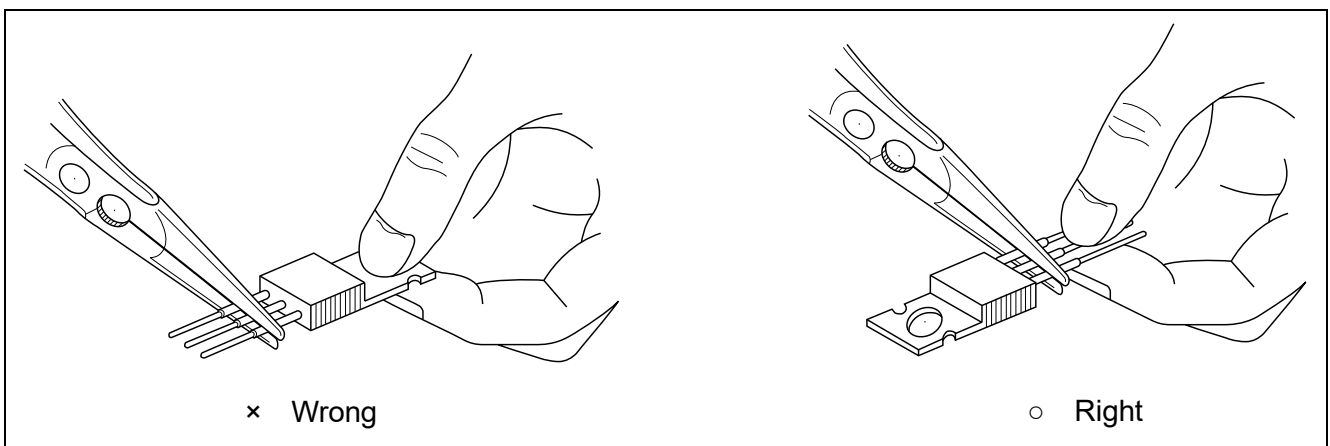
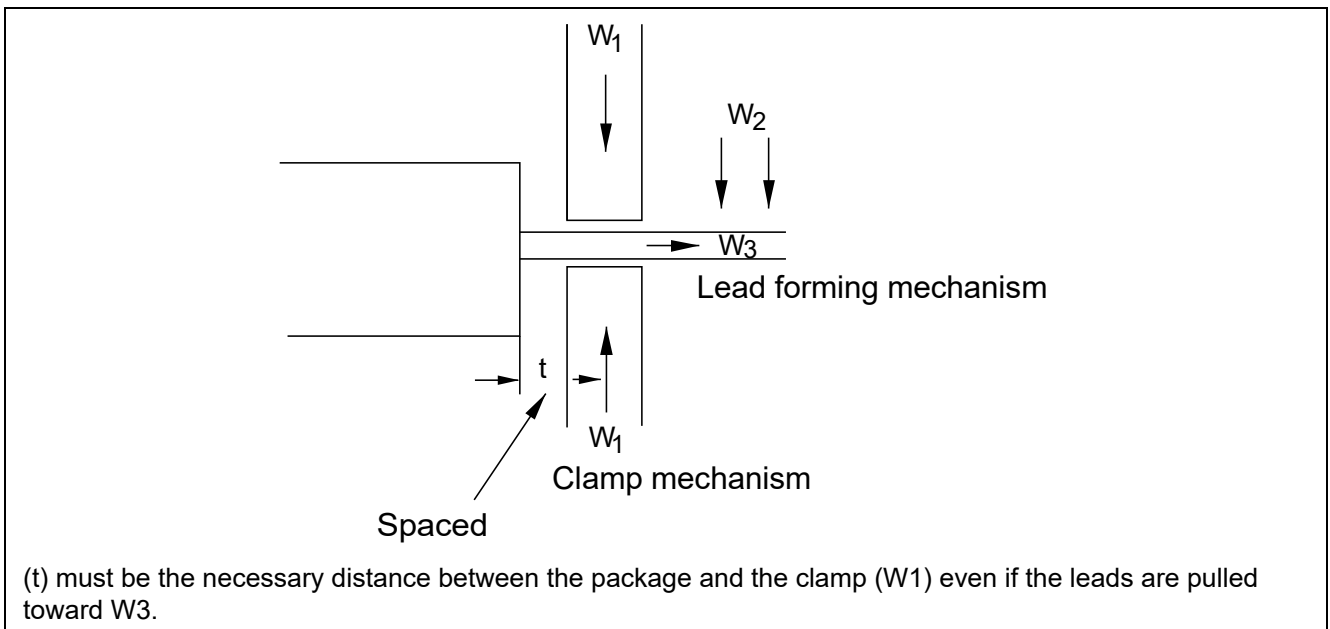

Figure 1 How to Bend Package Leads with Handling
Figure 2 How to Bend the Lead by Using a Mold
- (1) When bending the lead, fix between the lead bending point and the package body so that relative stress is not applied between the package body and the lead. Then, do not bend the lead while holding the package body (see figure 1). And, when forming outer leads using a metal mold, use a mechanism that fixes the outer leads. And, the mechanism to secure the lead also please be careful to not put stress on the semiconductor device body (See figure 2).